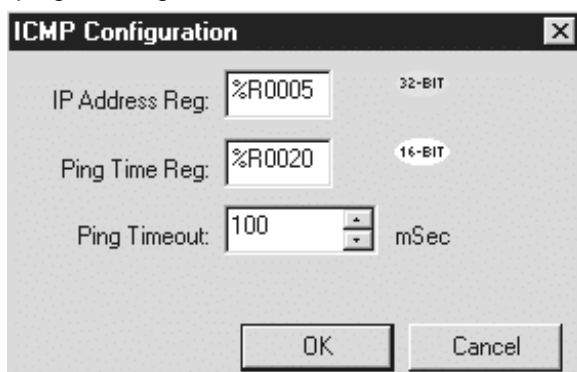

Figure 3.5 – ICMP Configuration Screen
9. Use the mouse to select either **ICMP (Ping)** or **EGD (Ethernet Global Data)** by clicking the desired box. When appropriate, both items can be selected. (Figure 3.5.)
a. If the **ICMP (Ping)** box is selected, press the Config button next to it. The following screen appears. The **Ping Timeout** indicates how often a ping signal is sent out in milliseconds. The range available for selection is 100 – 100,000 milliseconds. (Figure 3.5.)